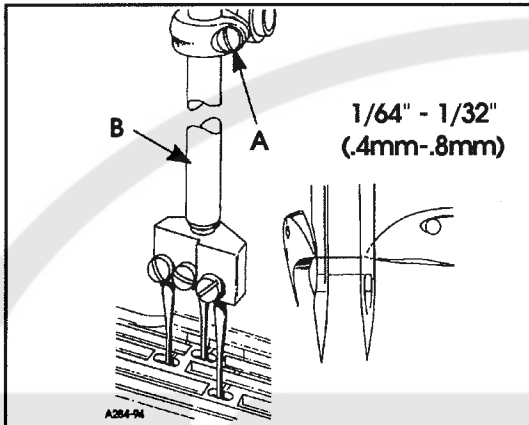

FIG. 9
The height of the needle bar is correct when the top of the needle eye is $1/64"$ to $1/32"$ (.4mm - .8mm) below the underside of the looper, with the looper point even with the right side of the needle. To make adjustment loosen screw (A, Fig. 9) and move needle bar (B) as required to attain dimension.